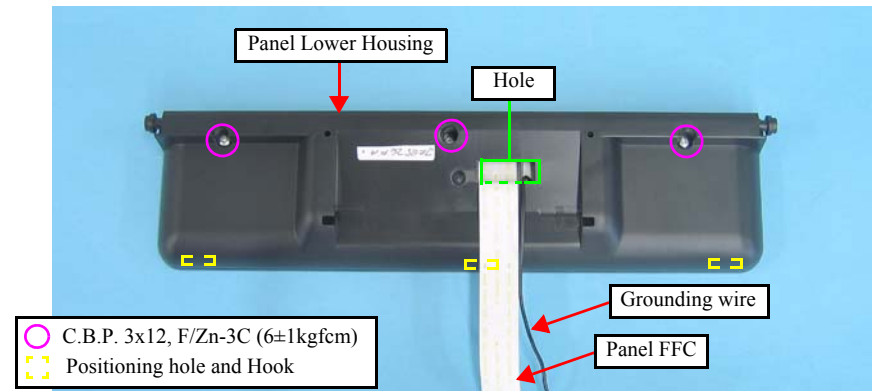

Figure 4-32. Removing the Panel Lower Housing
- When installing the Panel Lower Housing, tighten the screws after aligning the positioning holes (x3) of the Panel Lower Housing and the hooks (x3) of the Panel Cover as shown in **Figure 4-32**.